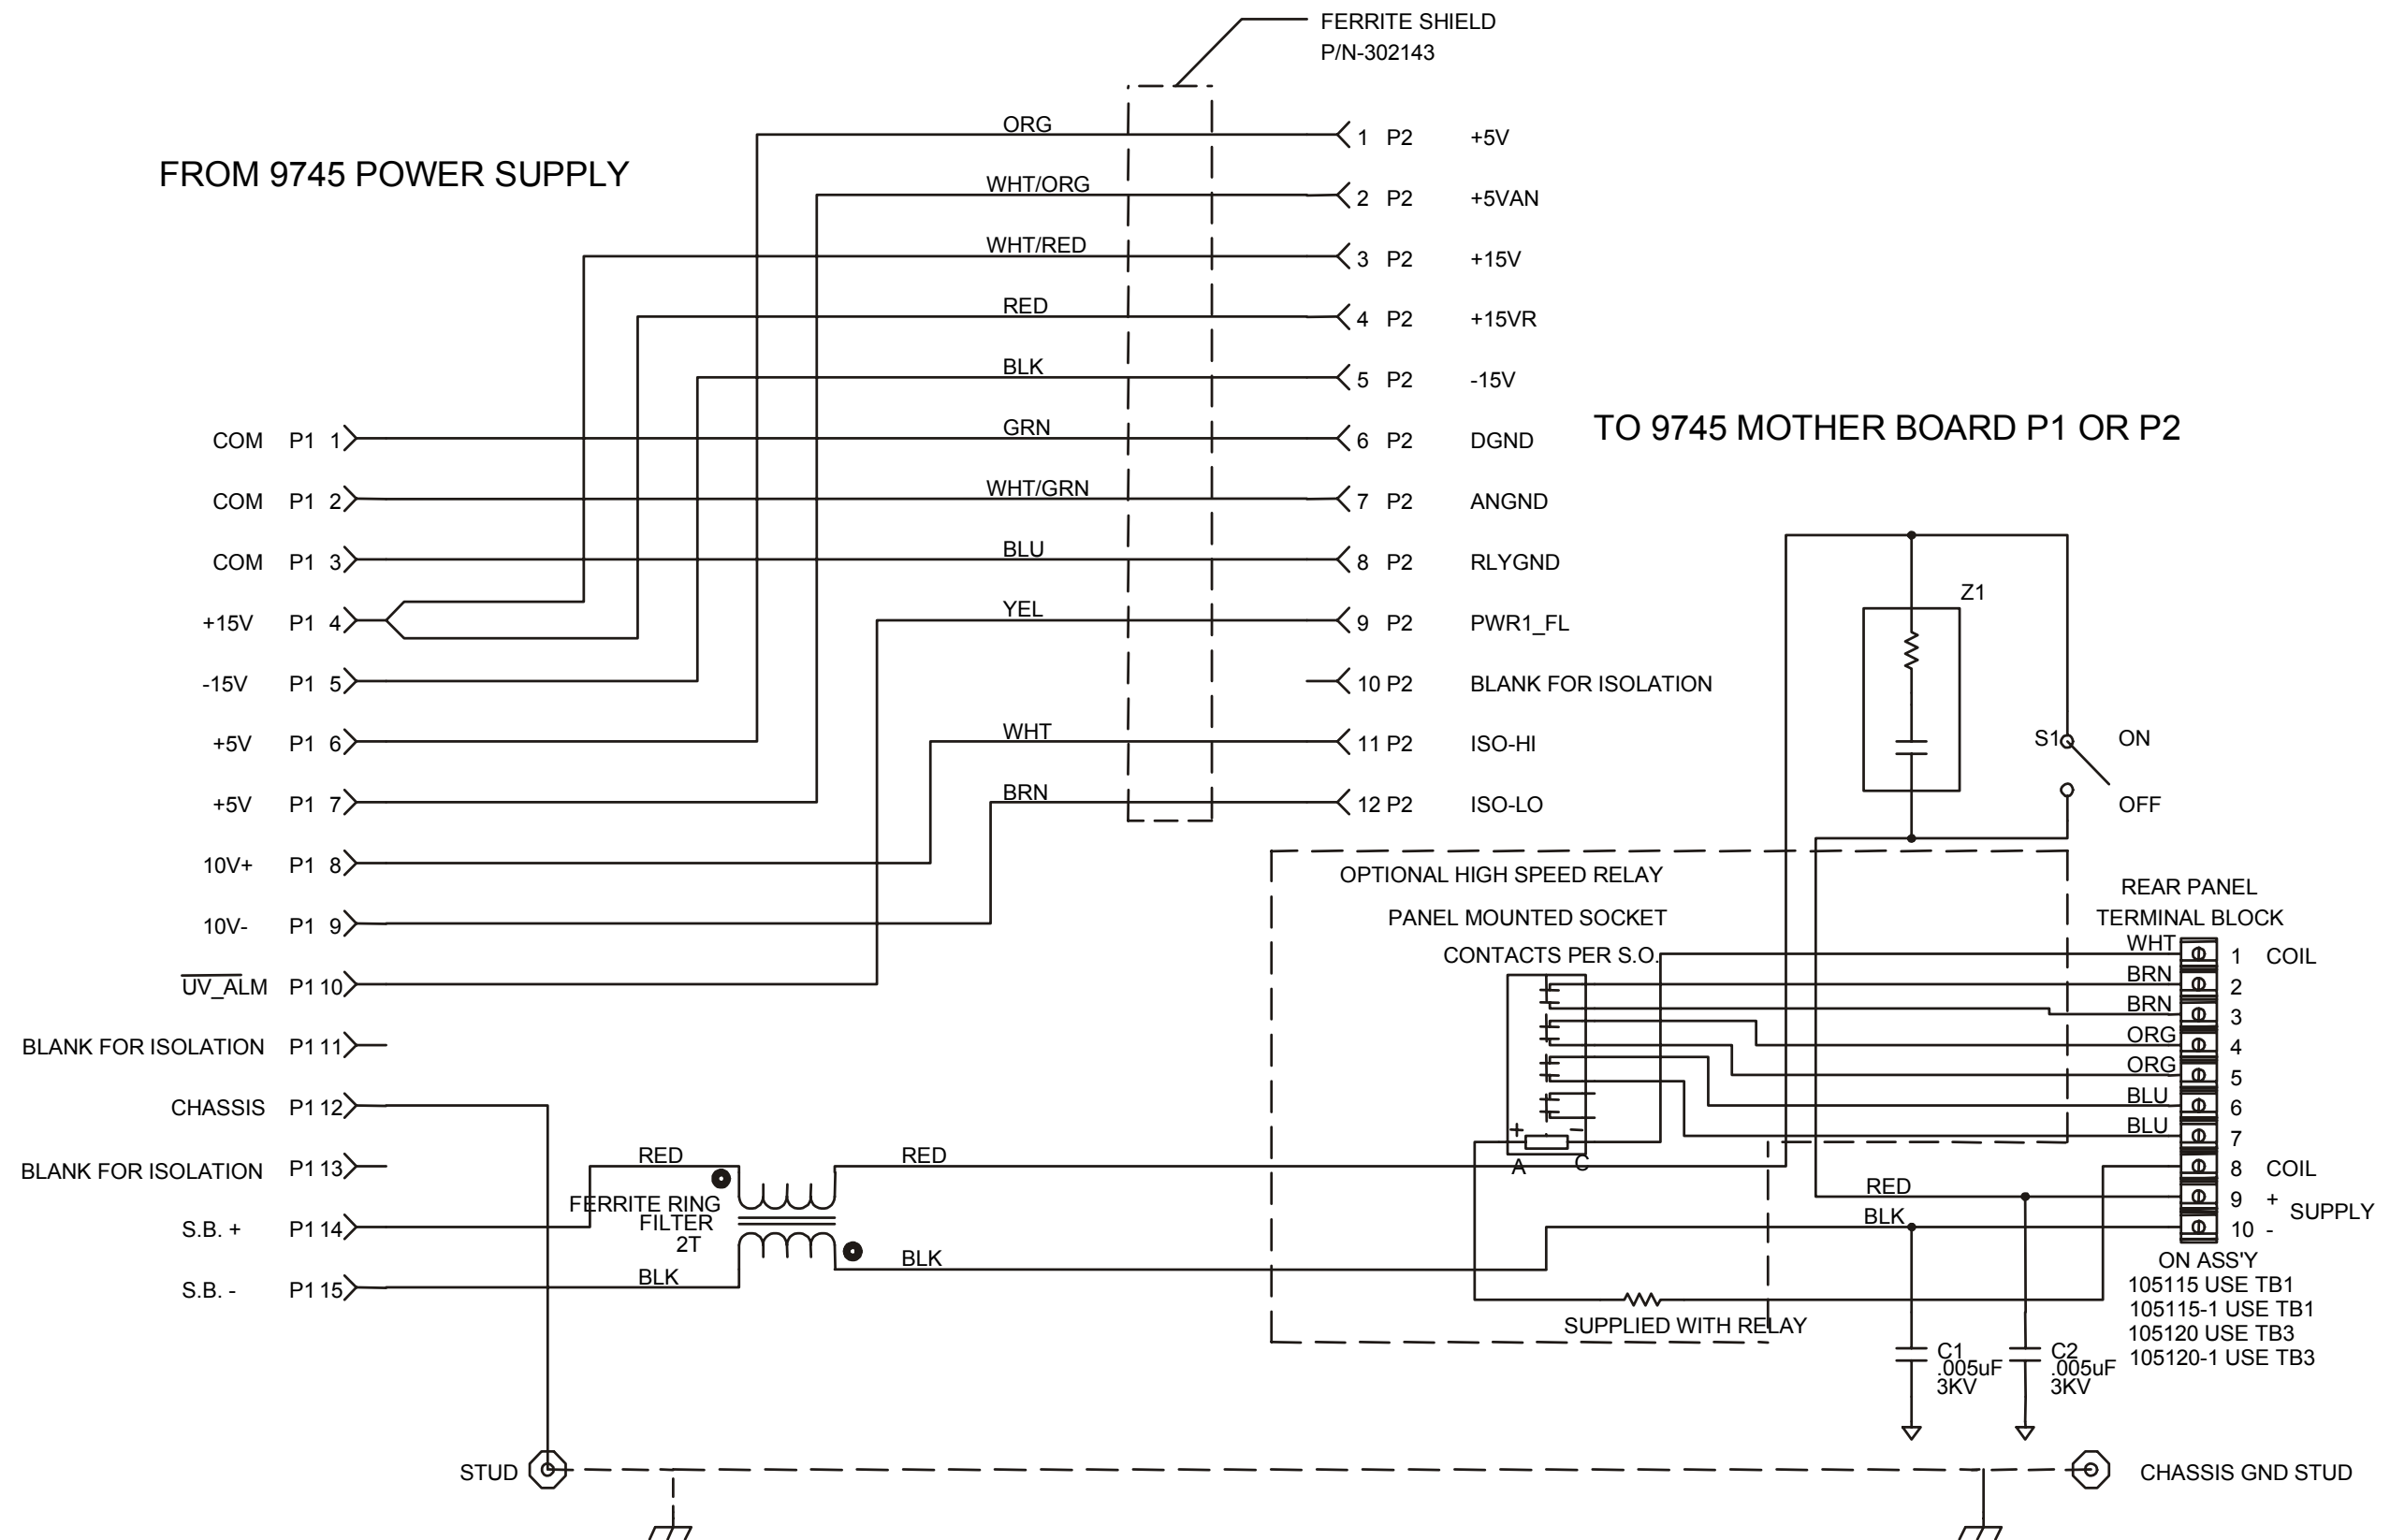

Figure 13-1. Wiring Diagram, 9745 Power I/O, Optional Relay (Drawing No. D-105119-E)
1. Figure 13-1. Wiring Diagram, 9745 Power I/O, Optional Relay (Drawing No. D-105119-E)